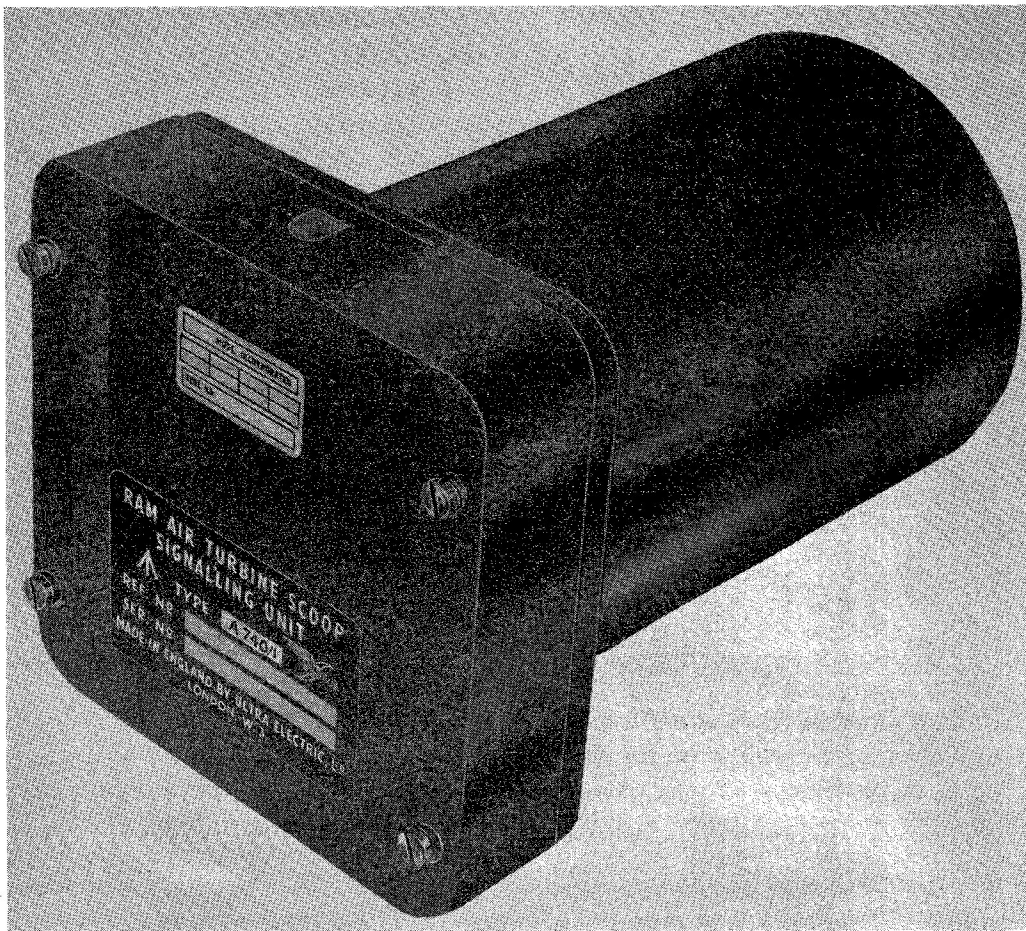

Fig. 1. Ram air turbine scoop signalling unit, Ultra, Type A740/1
1. The ram air turbines scoop signalling unit, Ultra, Type A740/1 (*fig. 1*), is a magnetic amplifier unit, used to control the extending mechanism of an aircraft's air scoops. When extended, the air scoops provide a supply of ram air for an electrical turbo-generator which maintains the primary electrical supply. In the event of the aircraft engine speed falling below a datum level (approximately 5000 r.p.m.) the scoops are extended, and the ram air turbine automatically provides a standby electrical supply for the flying control motors and other essential services.